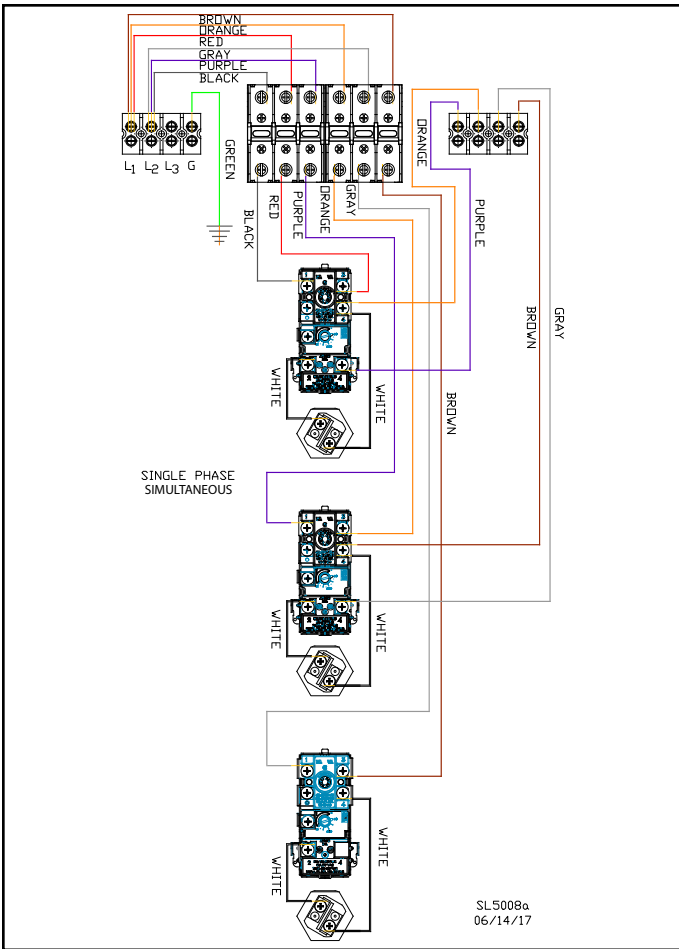

Figure 8 - Factory Wiring - Single Phase, Simultaneous Operation
See Figures 8 - 11 for optional configuration - wiring details.
- a. The Qualified Service Technician should fill in the white label with all conversion information in permanent ink. Place the completed label in an area close to the electric water heater rating label. See Figure 8.